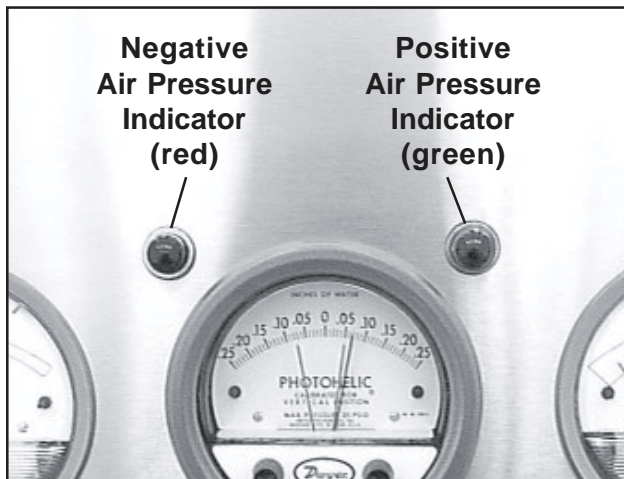

Figure 70. Indicator Lamp Lenses
There is a lens for each of the two indicator lamps in the Air Handling System: a red lens for negative air pressure, and a green lens for positive air pressure (Figure 70). Except for color, the lenses are identical. The procedure for replacing an indicator lamp lens is the same for both the negative and positive functions. It is not necessary to remove the front panel to replace these lenses.
1. Unscrew the lens by hand from the lamp base (Figure 70).
1. By hand, unscrew the colored lens from the lamp base on the front panel (Figure 70).
There are two indicator lamps in the Air Handling System: one for negative air pressure, and one for positive air pressure (Figure 70). The procedure for replacing an indicator lamp is the same for both.